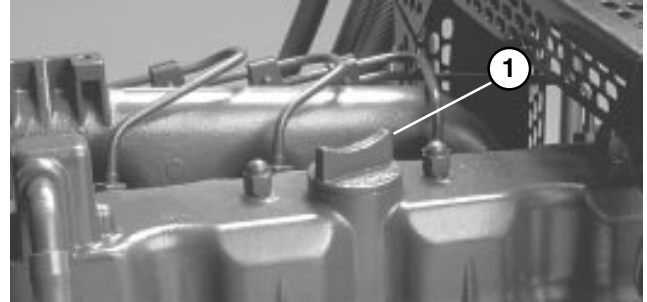

Figure 3
4. If oil is below FULL mark, remove fill cap (Fig. 3) and add oil until level reaches FULL mark. DO NOT OVERFILL.